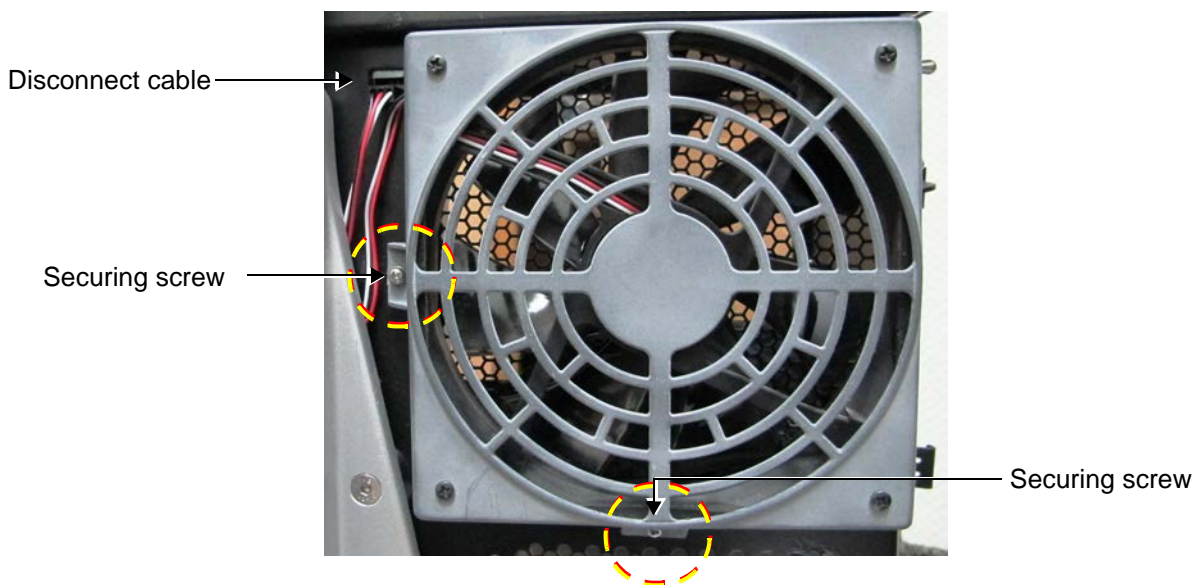

Figure 8-165 Fan for Cabinet Cage Assembly
The fan (see Figure 8-165 below) is located at the rear of the scanner.
2.) Disconnect the Fan cable as indicated in Figure 8-165 below.
3.) Loosen and remove the two securing screws as indicated in Figure 8-165, above.
- 2.) Fasten the two securing screws as indicated in Figure 8-165.
- 3.) Reconnect the Fan cable as indicated in Figure 8-165.